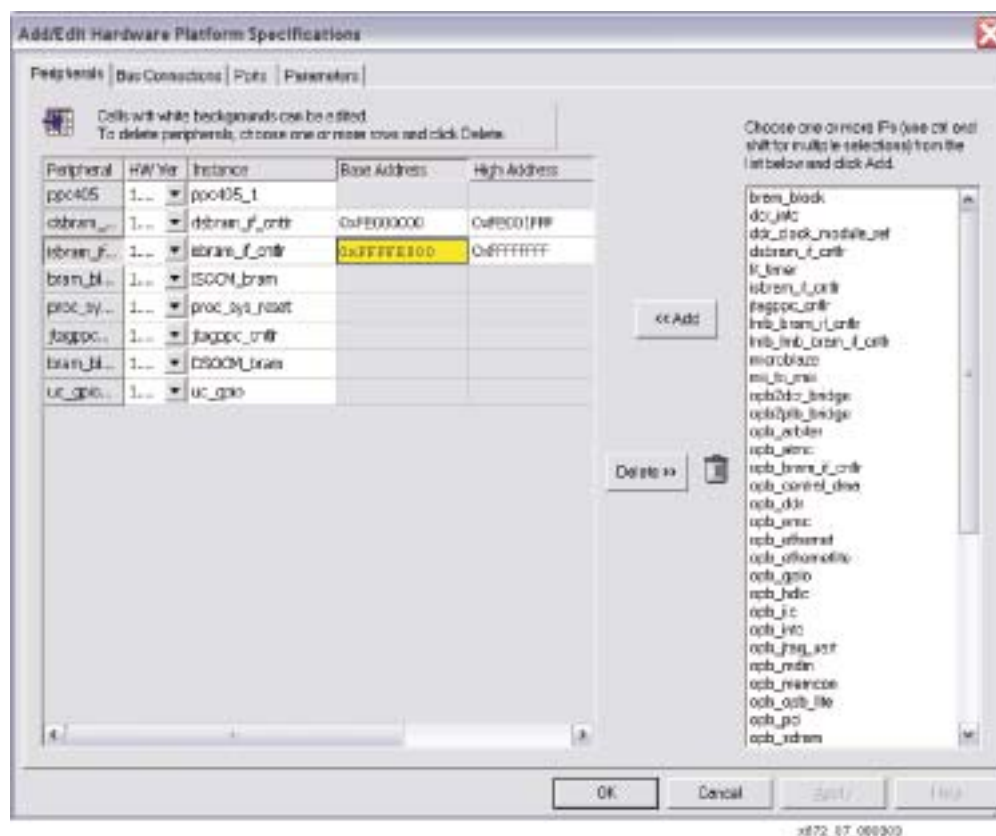

Figure 9: Data-Side Memory Address
1. Change the hardware memory ending address (*dsbram*) under Project / Add/ Edit Cores. The screen capture in Figure 9 illustrates the dialog. The current address is 0xFE001FFF.